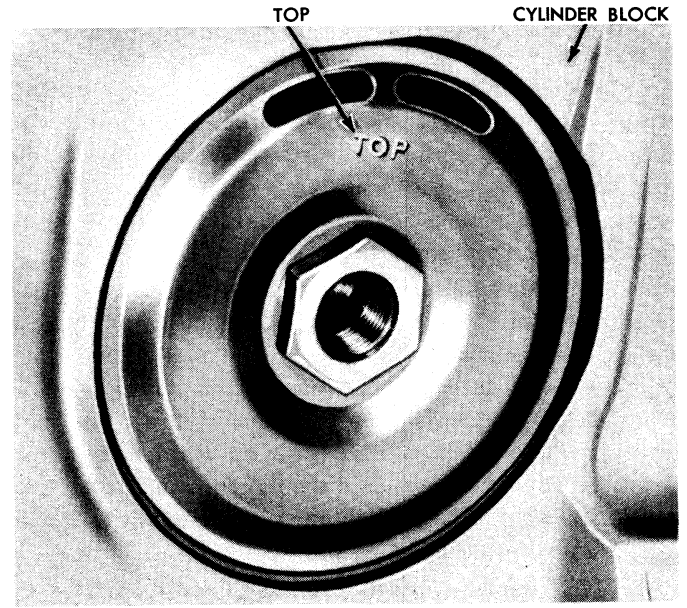

Fig. 37—Oil Filter Anti-Drain Back Diaphragm Position
(4) **INSTALLATION.** Check to see if the two elongated holes in the oil filter anti-drain back diaphragm are in the up position as shown in fig. 37. Clean the cylinder block filter recess, then install a new gasket. Place the filter assembly in position, and thread the center bolt into the adapter finger-tight. Rotate the filter assembly slightly, in each direction, to make sure the gasket is seated evenly. Tighten the center bolt to 20-25 foot-pounds torque.